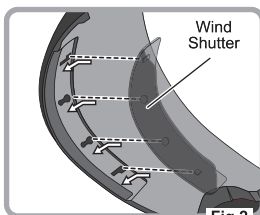

Fig.2
2. Check Fig.2. Push in the hook on the Wind Shutter into the holes inside the Chin Cover. Follow the arrow direction to push in hooks.